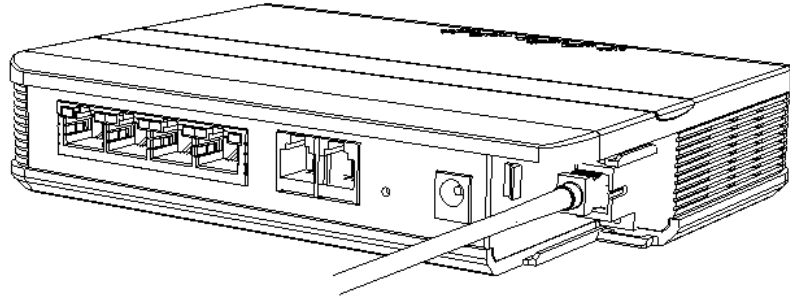

Figure 3 Plug in the fiber connector
3. Plug in the fiber connector to connect the ONT to the network (Figure 3).